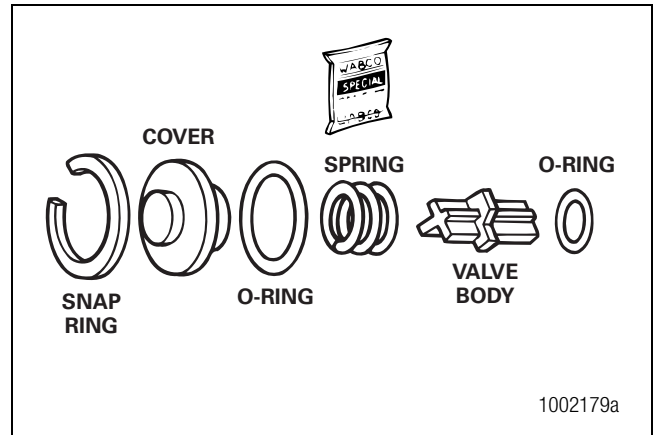

Figure 3.19
1. Review Figure 3.19 to ensure you have all of the parts required to replace the bypass valve.